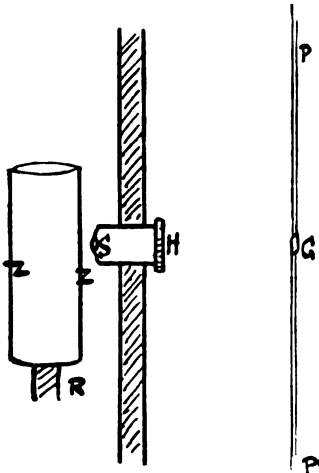

FIG. 2
of which is given in Fig. 2, we have a revolving ebonite drum (ZZ), enclosed in a light-tight box, through the front of which is a small lens (S). On the lens tube of S is concentrated a powerful beam of light from a Nernst lamp (L), by means of the condensing lens (C). But between the source of light and the revolving drum is placed a very delicate galvanometer, which consists of a powerful electro-magnet (not shown in the diagram), between the poles of which are two exceedingly fine silver wires (PP).